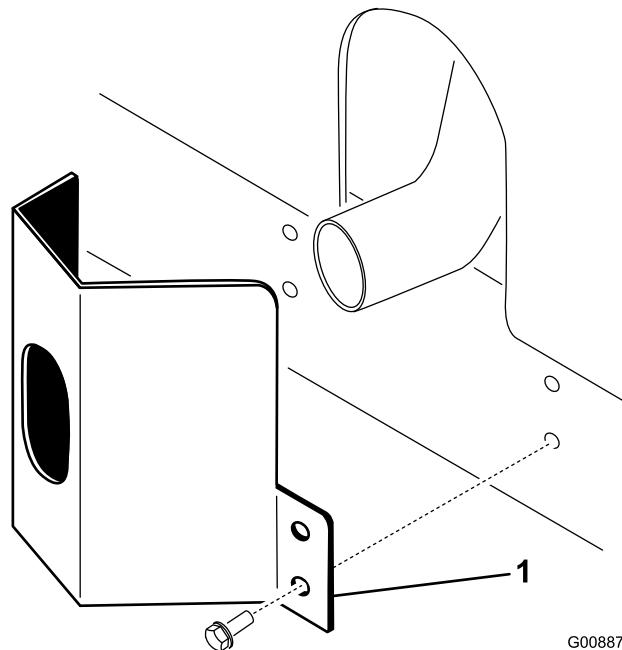

Figure 11
- 2. Secure the exhaust guard to the frame with 4 self-tapping screws (Figure 11).
1. Position the exhaust guard around the muffler while aligning the mounting holes with the holes in the frame (Figure 11).